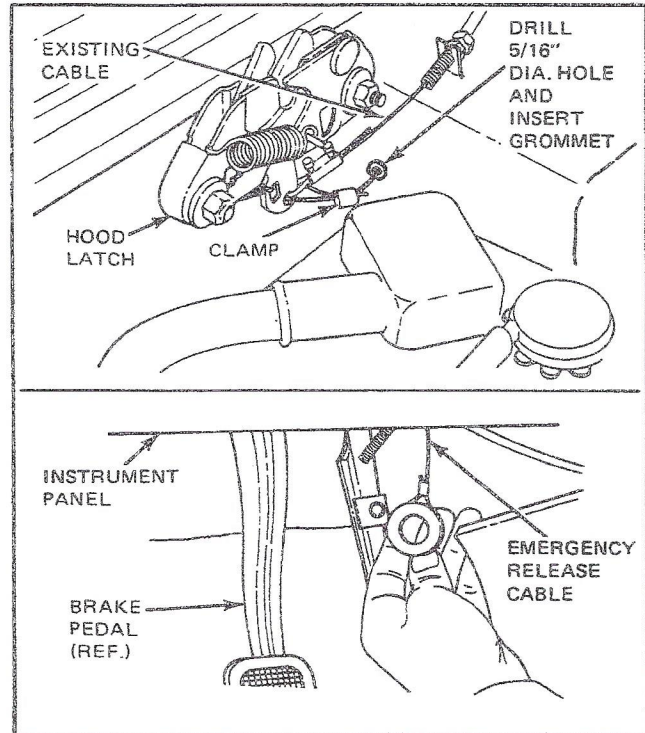

Fig. 1—Article 64
1. Open the front hood and drill a 5/16" dia. hole in the R.H. side of the brake pedal box, in line with the hood latch (See Fig. 1).